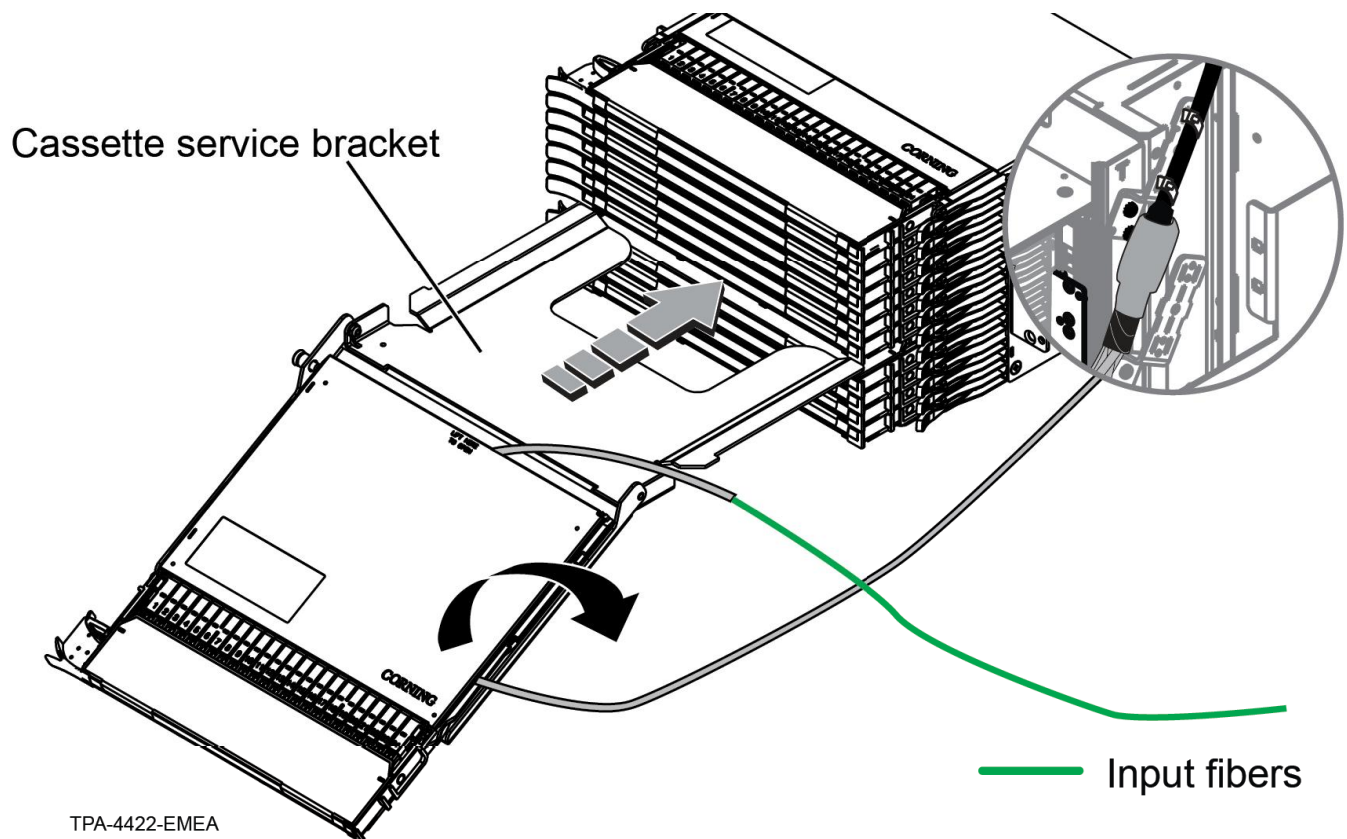

Figure 36
Step 4: If using the service bracket, place the cassette on it as shown in Figure 35. Then insert the service bracket into the slot vacated by the cassette being work on (Figure 36). Open the cover of the cassette and remove it, if desired, by bowing the hinged edge of the cover to release the hinge pins.